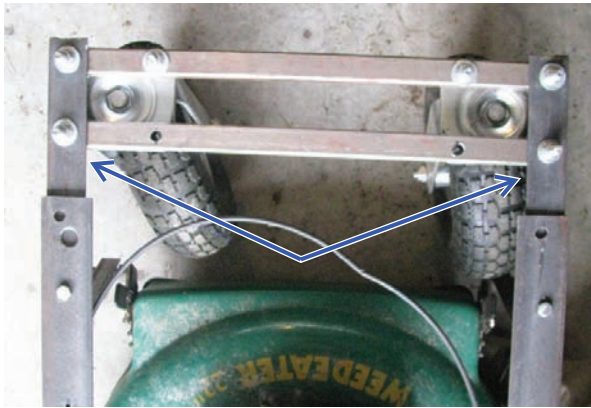

Figure 10-8. The main frame rails connected to the front caster wheel support braces
1. Cut the two main frame rails (A) using a 2-inch angle iron. Depending on the size of your frame, you may not have to cut these; you can buy 36-inch or 48-inch long pieces from the hardware store, which might work nicely. I used 48-inch pieces for these frame rails.
2. Cut the three cross-brackets (B). The rear bracket should be 2-inch angle iron and the two front brackets should be 1-inch square tubing. These three pieces should all be cut the same length to ensure that the bot is square. For my 22-inch lawnmower deck, the width to provide adequate clearance turned out to be 20-inch, which may be slightly different depending on your specific lawnmower design.
4. Mount the front cross-brackets (1-inch square tubing) with caster wheels to the front of the main frame pieces. Drill one hole on each end of the cross-brackets and through the front of the main frame rails (see Figure 10-8).